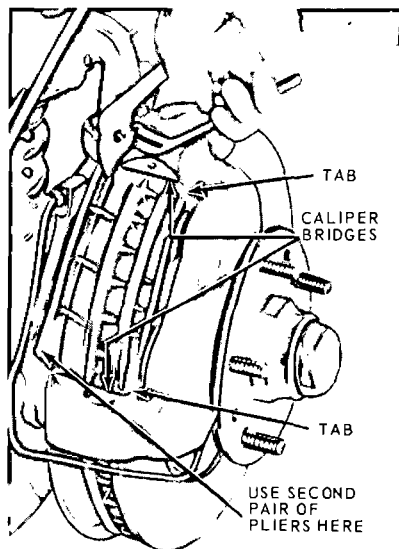

FIG. 19—Removing Disc Brake Shoe and Lining Assembly—Typical
4. Grasp the metal flange on the outer end of the shoe with two pairs of pliers and pull the shoe out of the caliper (Fig. 19).
assembly on each side of the rotor so that the lining faces the rotor. Be sure that the tabs on the shoe flanges seat fully against the caliper bridges (Fig. 19).